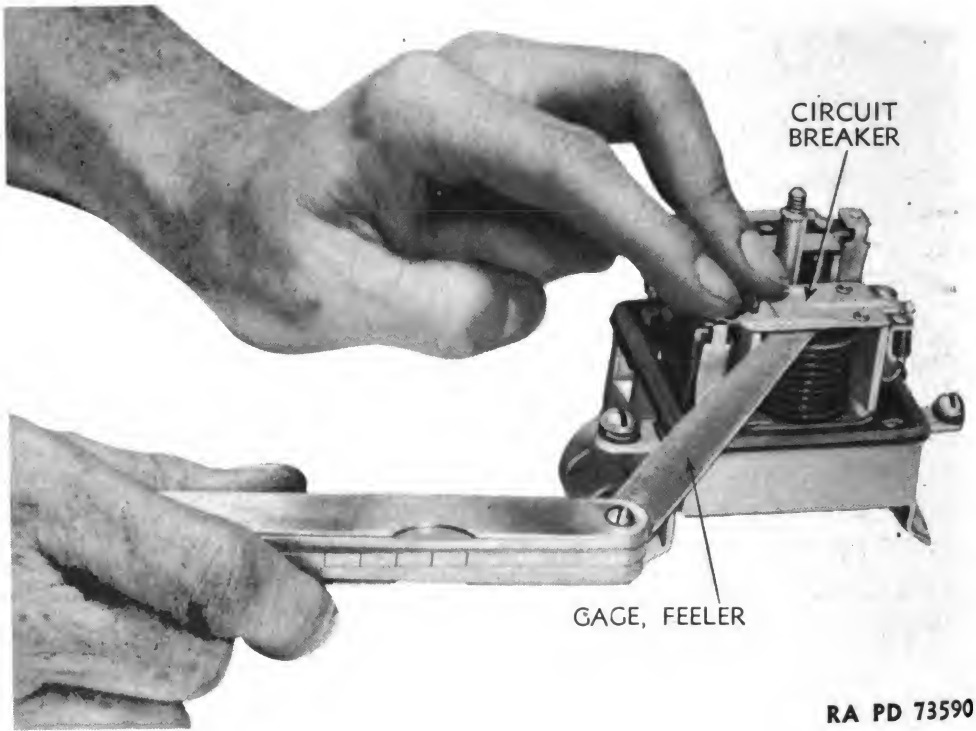

Figure 141 — Checking Circuit Breaker Armature Air Gap
(6) **CIRCUIT BREAKER ARMATURE AIR GAP.** Check circuit breaker armature gap (fig. 141). This check is made with contacts closed, and is adjusted by raising or lowering stationary contact. Adjust to 0.010 to 0.030 inch.